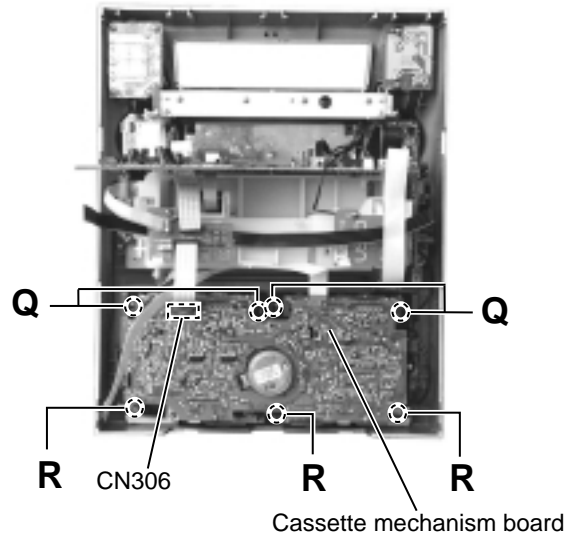

Fig.17
**■ Removing the cassette mechanism assembly (See Fig.17)**